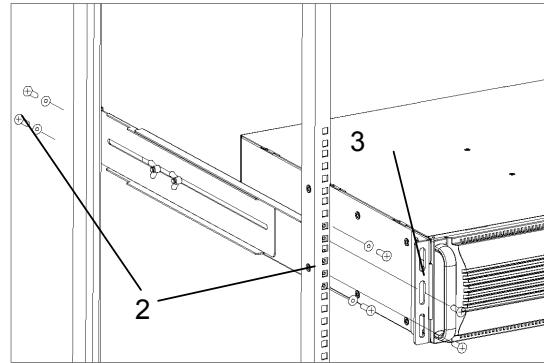

Fig 2.3 Mounting the UPS
2. Adjust the rails and gently slide UPS into the rails. See fig. 2.3.
3. Fix mounting bracket on the enclosure by screws. See fig. 2.3.